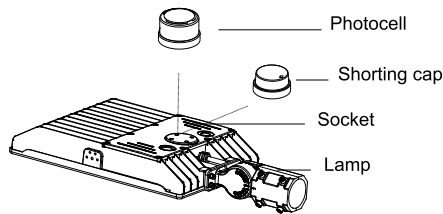

Figure 27
**Attention:** When the photocell function is required, photocell should be installed on the back of lamp; When it's not required, shorting cap should be installed on the back of lamp (Figure 27)